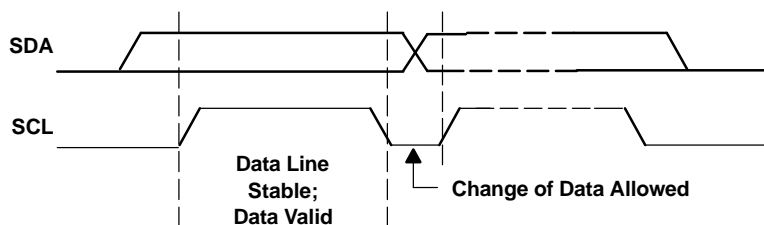
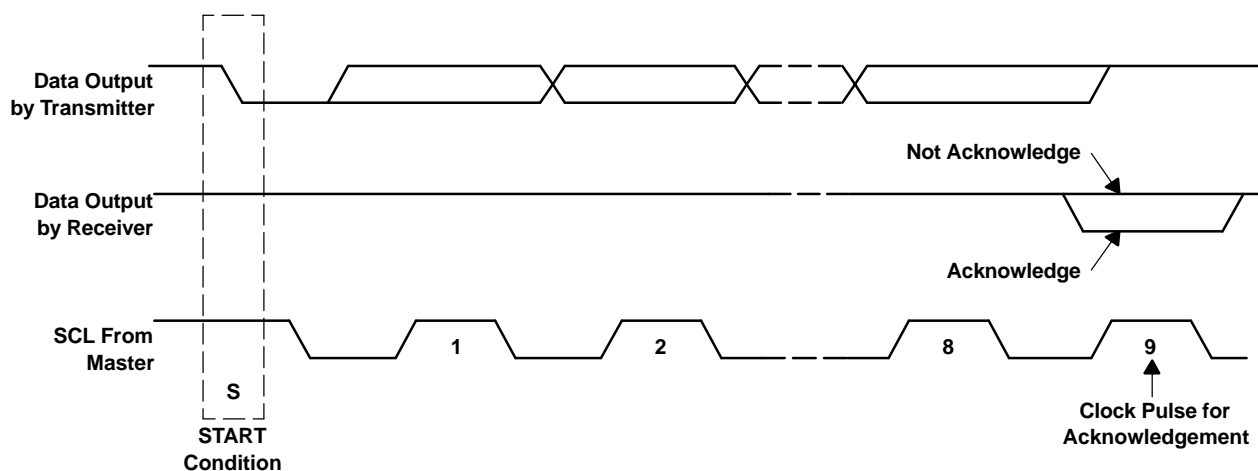

Figure 30. Bit Transfer on the I2C Bus
Figure 31. Acknowledge on the I2C Bus
- The master then generates the SCL pulses, and transmits the 7-bit address and the *read/write direction bit*  $R/\overline{W}$  on the SDA line. During all transmissions, the master ensures that data is *valid*. A *valid data condition* requires the SDA line to be stable during the entire high period of the clock pulse (see Figure 30). All devices recognize the address sent by the master and compare it to their internal fixed addresses. Only the slave device with a matching address generates an *acknowledge* (see Figure 31) by pulling the SDA line low during the entire high period of the ninth SCL cycle. Upon detecting this acknowledge, the master knows that communication link with a slave has been established.